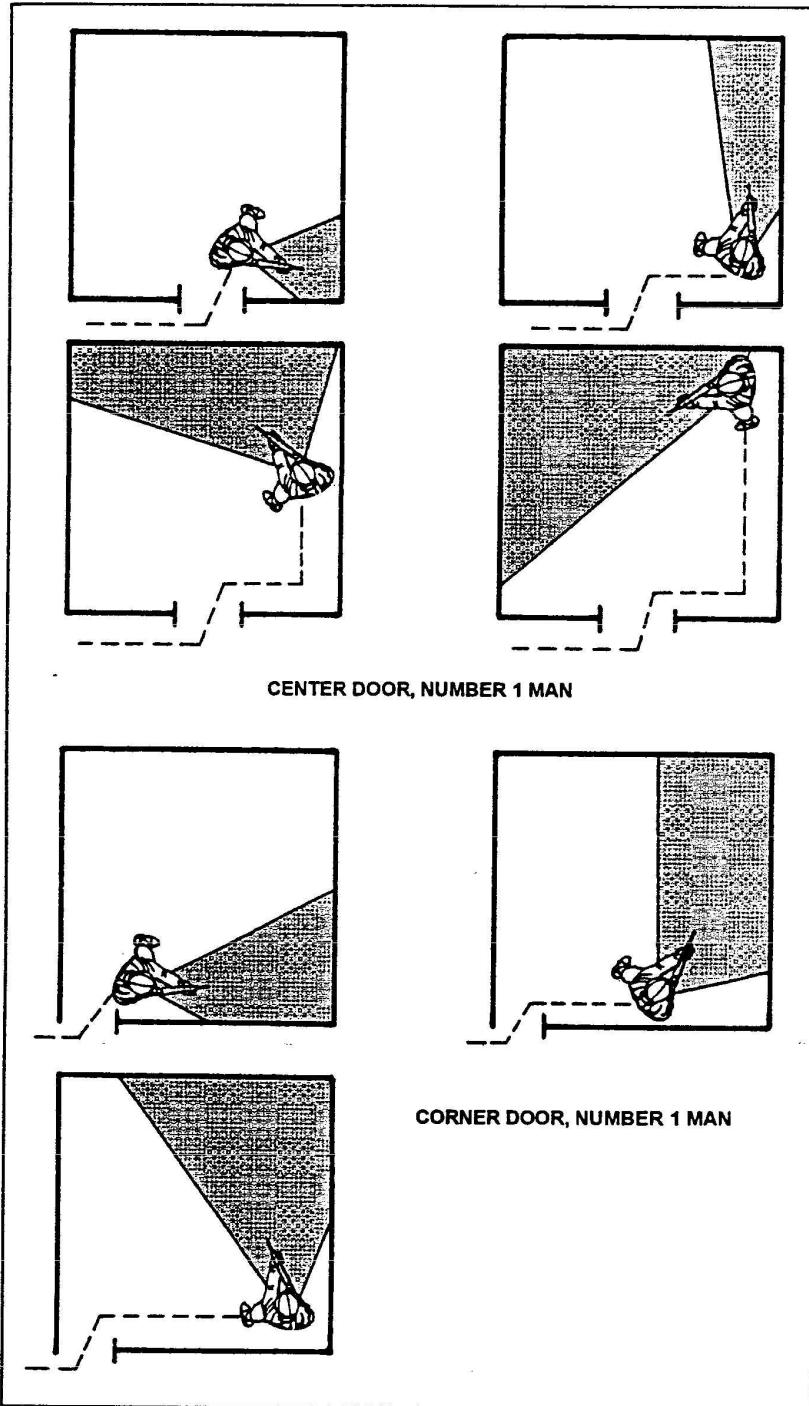

Figure K-5. Path of #1 man center door and corner door.
a. The door is the focal point of anyone in the room. It is known as the "fatal funnel," because it focuses attention at the precise point where the individual team members are the most vulnerable. Moving into the room quickly reduces the chance that anyone will be hit by enemy fire directed at the doorway. The sequence of movements described below is shown in Figures K-5 through K-14.
(1) The first man to enter moves in as straight a line as possible toward the corner for which he is responsible. He may then turn and move deep into the far corner of the room. The depth of his movement is determined by the size of the room, any obstacles in the room such as furniture, and by the number and location of enemy and noncombatants in the room (Figure K-5).
(2) The second man enters and moves toward the corner